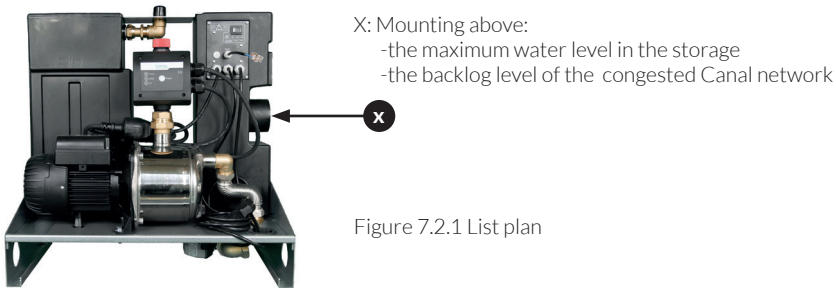

Figure 7.2.1 List plan
- above the maximum water level of the Speicher (see Figure 7.2.1);